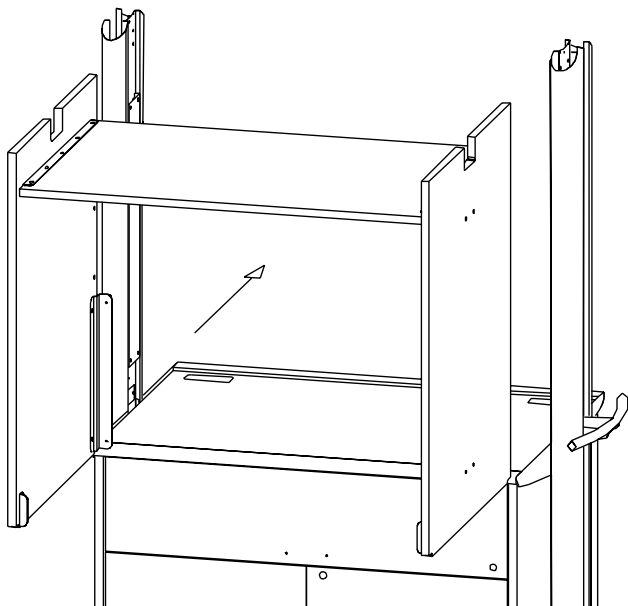

FIGURE 10
**CAREFULLY** slide cabinet assembly into the top of the cart as shown in **FIGURE 10**. **LOOSELY** attach cabinet to uprights with the 10-32 x 1" combo truss screws as shown in **FIGURE 11**.